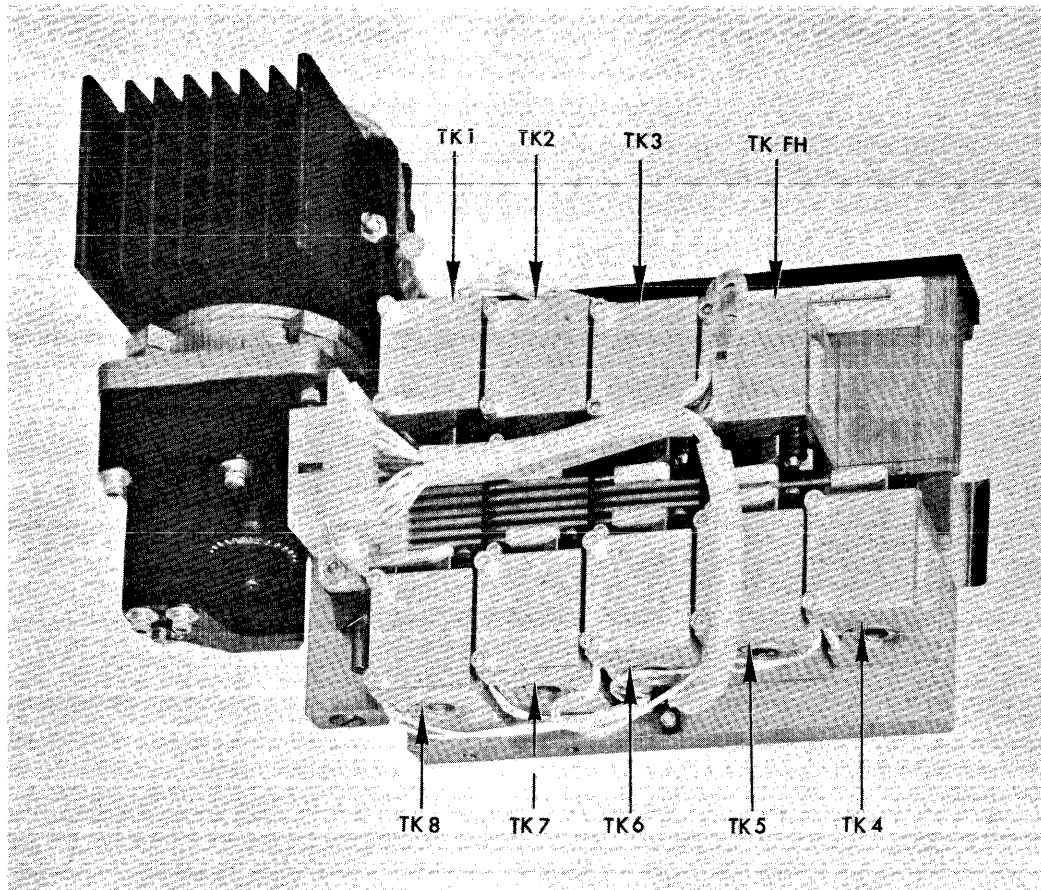

Figure 6-2. Solenoid Location For Each Track.
- a. Determine which solenoid is faulty. The solenoid corresponding to a particular track is shown in Figure 6-2.